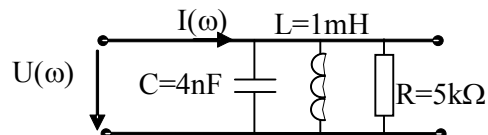

Figure 5
3. Determine and represent the magnitude and the argument of the transfer function ( $Z(\omega) = \frac{U(\omega)}{I(\omega)}$ ) of the circuit in Figure 5. Determine its resonance frequency, the frequency at which the magnitude of the frequency response has the maximum value.